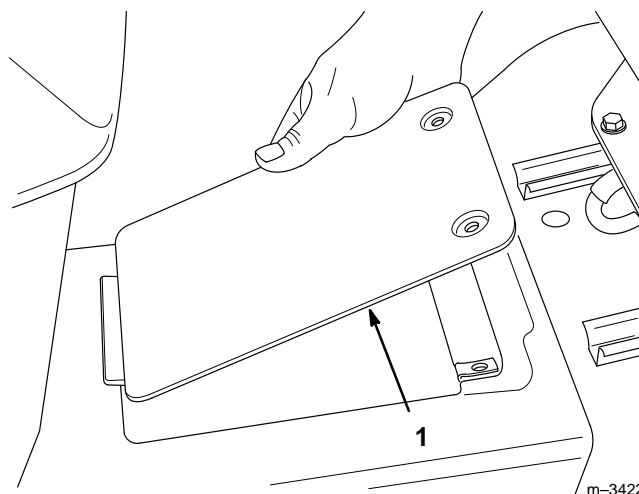

Figure 36
3. Open the drive shaft maintenance cover on the tractor tunnel near the seat by unscrewing the two screws securing it, then raising it (Fig. 36).